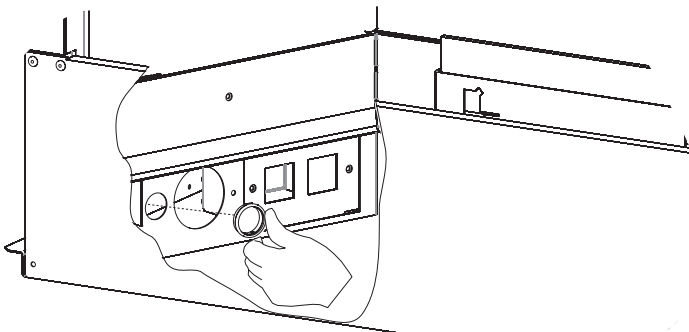

Figure 29
8. Install a plastic bushing in both the liner and outer walls of the fireplace. (See Figure 29 & 30)